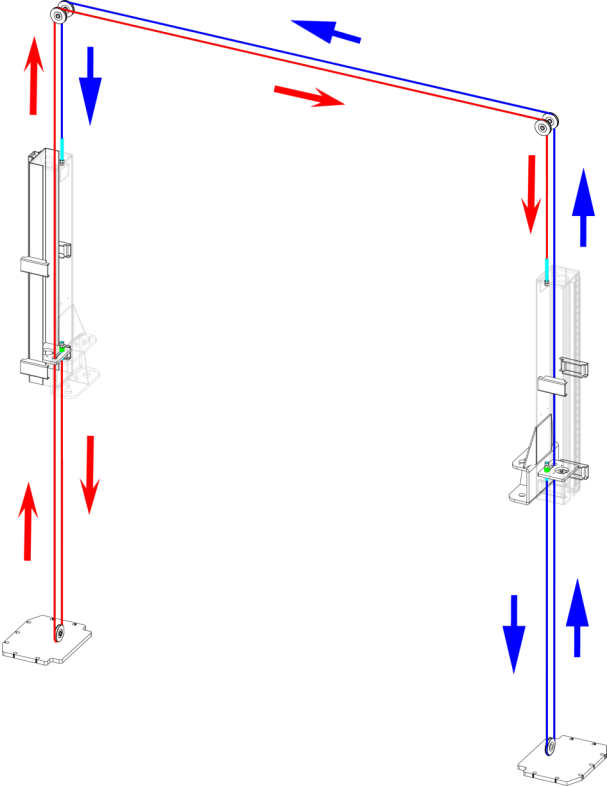

FIG 13
Step 9: Equalized cable installation (See Fig13)